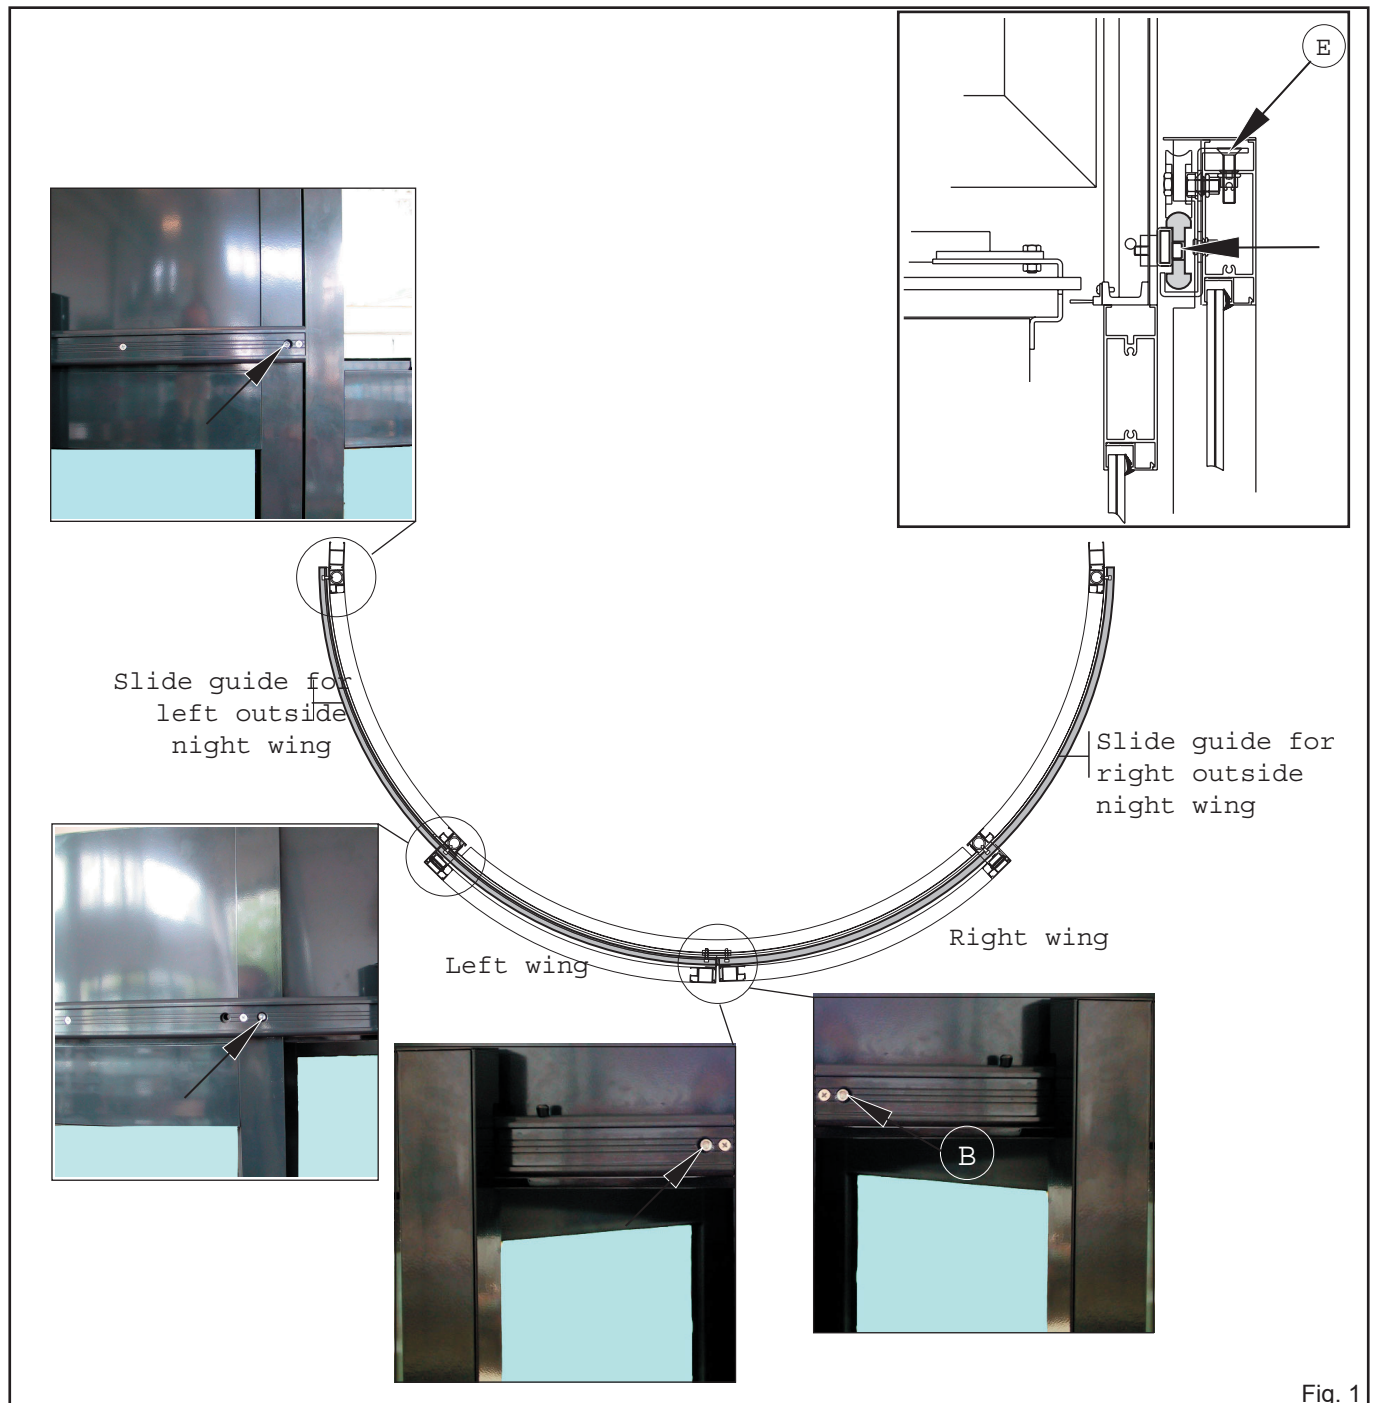

Fig. 1
- Depending on LT, cut the template rod to the appropriate size (see example in fig. 1).
- (Fig. 1) Slide out the 100-mm rubber strip, loosen screw [E] and take it out.
- (Fig. 1) Push the two screws [M] at the top of the moveable wing support until the pin [N] moves up.
- (Fig. 1) Fix the false ceiling supports [27] on the brackets [28].
- (Fig. 1) Fix the ceiling support rods [30] adjusting them with the brackets and hook [29] (see detail).
(Fig. 1) Fix the transom [20], complete with opening radar, over the passing space by means of the 4 fixing points.
- 7.1 (Figure 1) Secure the slide guide for the left outside night wing in place at the three securing points.
- 7.4 (Figure 1) Secure the slide guide for the right outside night wing in place at the three securing points.
Note: (Figure 1) Fully open the right outside night wing to tighten centre screw [B] down into place.